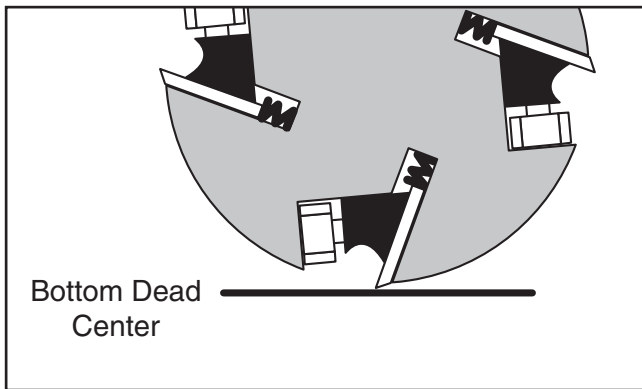

Figure 26. Cutter edge at bottom dead center (same concept with carbide inserts).
*BDC = Bottom Dead Center (see **Figure 26**).